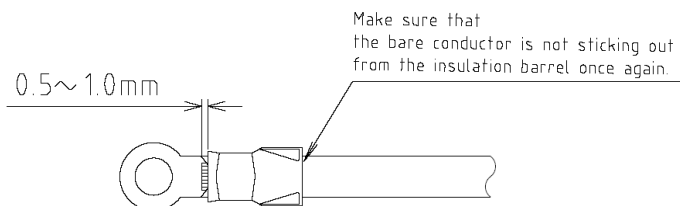

FIGURE 2-24
f. Refer to **Figure 2-24**. Make sure that the bare conductor is exposed about 0.5 ~ 1.0mm at the base of the terminal adjacent to the insulation barrel.